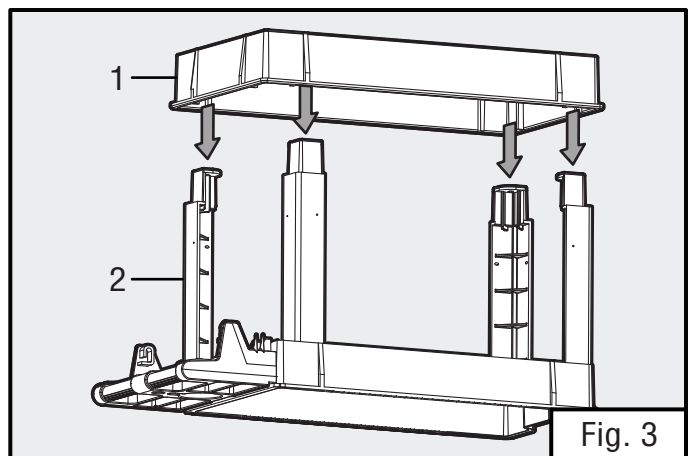

Fig. 3
5. Now for the lower tray (Fig. 3 - 1). Turn the shelf tray upside down and place it onto the four legs (Fig. 3 - 2). The flanges on the four legs should fit into the depressions in this shelf tray. If all 12 screws were correctly secured through the four legs into the shelf tray, everything should fit together. Gently tap shelf tray onto the four legs until the tabs and shelf tray depressions are in contact with each other.